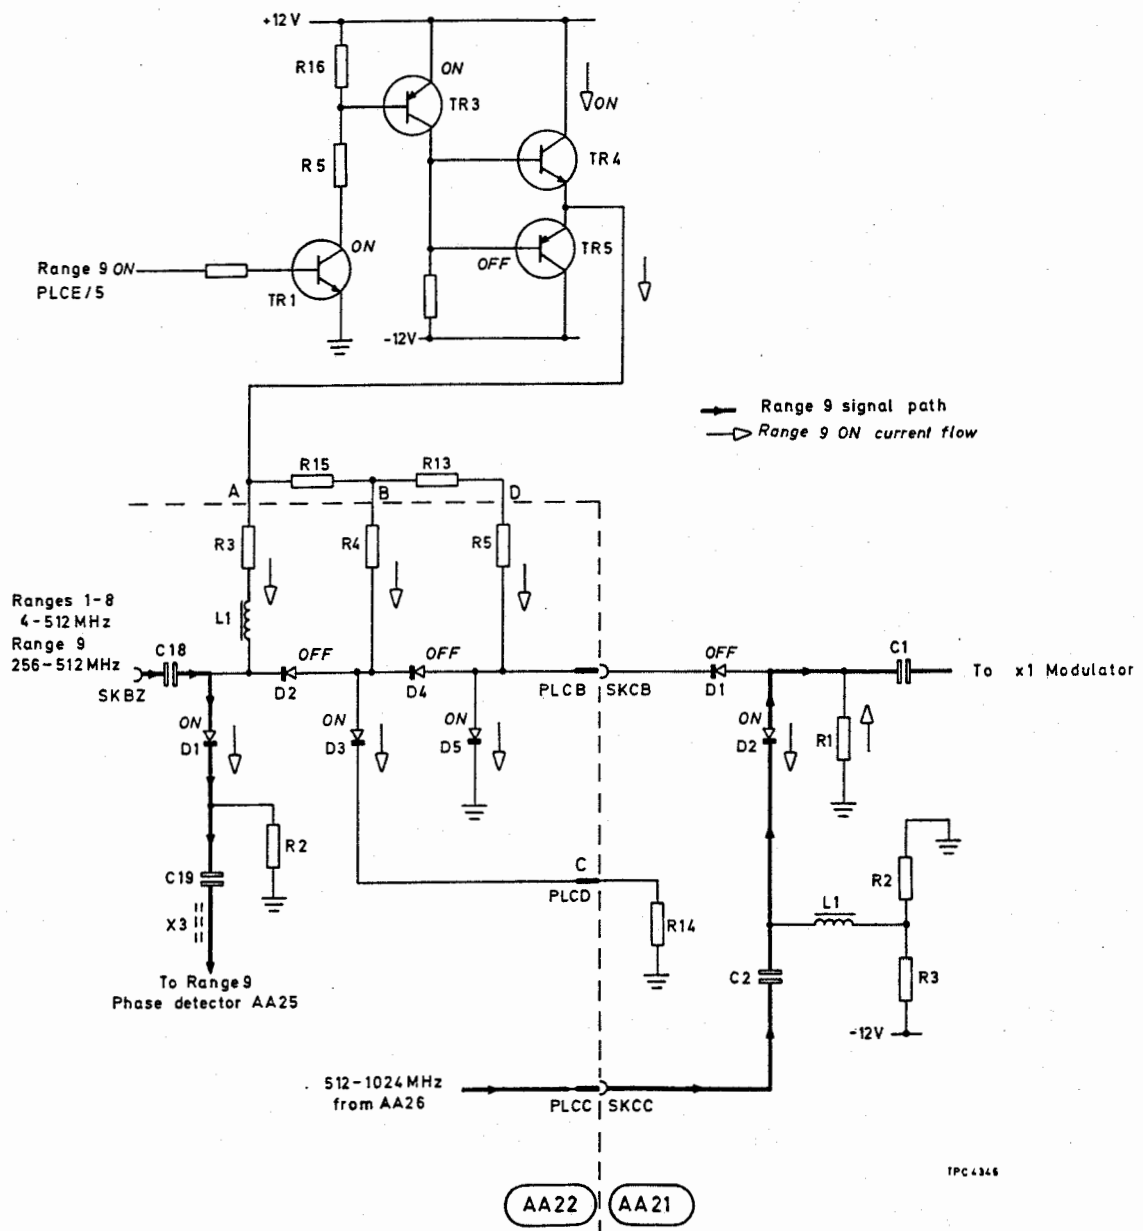

Fig. 6 Range 9 ON selection (AA21)
21. When Ranges 1-8 are selected the Range 9 ON line is held 'low', TR1, TR3 and TR4 are turned off and TR5 is turned on. The junction of TR4/TR5 emitters is connected to p.i.n. diode switching lines A, B and D. These are connected to a series of diodes on AA22 as shown in Fig. 6 below.
22. When AA21 TR5 turns on, current is drawn through the diode switching lines A, B, D and AA21 R1, turning on AA22 diodes D2, D4 and AA21, D1. AA22 diodes D1, D3, D5 and AA21, D2 are turned off allowing the Ranges 1-8 signals (4-512 MHz) at SKBZ to pass via C18 through SKCB to AA21 modulator X1. When Range 9 ON is asserted 'high' at AA21 PLCE pin 5, TR1, TR3 and TR4 are turned on and TR5 is turned off; current flow is now from AA21 TR4, through diode switching lines A, B, C and D. AA22 diodes D1, D3, D5 and AA21 D2 are turned on. AA22 diodes D2, D4 and AA21 D1 are turned off. The Range 9 input signal (256-512 MHz) at SKBZ is then routed via AA22 D1 to the phase detector AA25 to be compared with the VCO signal. Output on Range 9 is taken from the AA26 VCO output. PLCC (512-1024 MHz) to AA21 SKCC, C2 and D2 to modulator X1, current flow and signal path are illustrated in Fig. 6. The three stages of diode switching used in this circuit, each isolated in its own screened box, are designed in this manner to provide isolation of unwanted sub-harmonic when Range 9 is on.